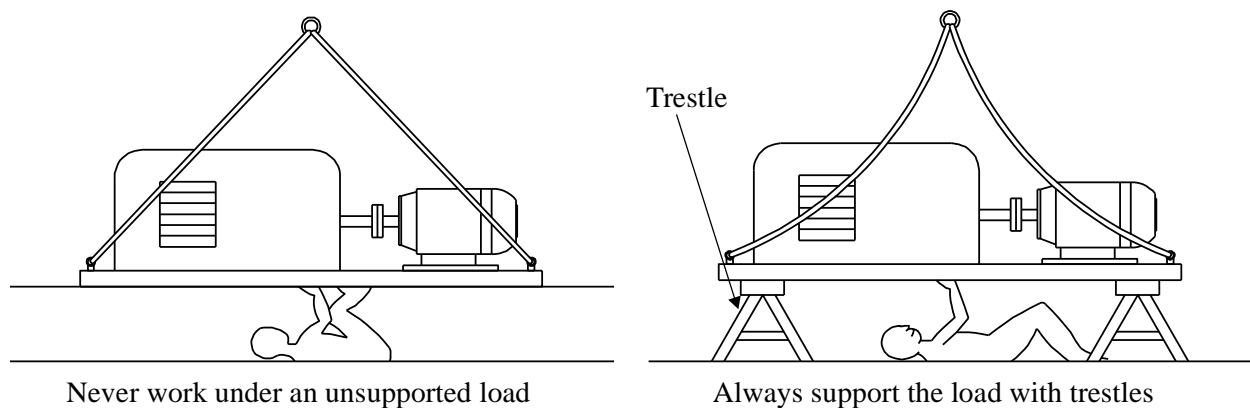

Figure 13.21 When working under a load always support it with trestles
1. Never work under an unsupported load. Make sure that trestles are used to support the load and not the hoisting equipment (**Figure 13.21**).